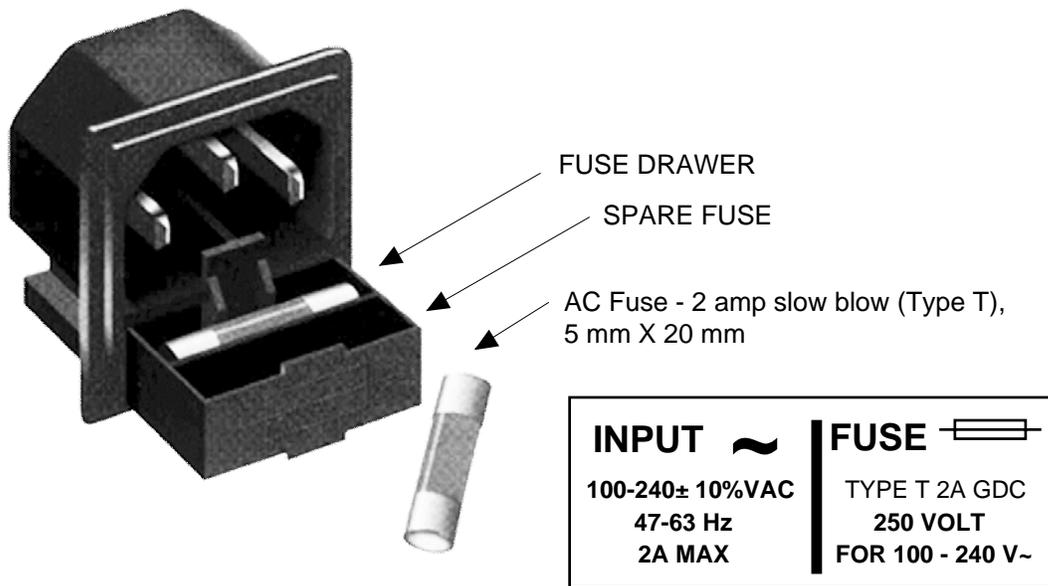

FIGURE 2.6 FUSE LOCATION AND SPARE FUSE
- 3.) **AC Fuse** - The fuse is a 5mm, 2 amp slow blo and is inserted in the far slot in the drawer below the AC input as shown in Figure 2.6. There is a spare fuse in the near slot. If a fuse continues to open, the power supply is most likely defective. Note that each power supply module within the chassis also has a fuse but failure of this fuse indicates the power supply may be defective.